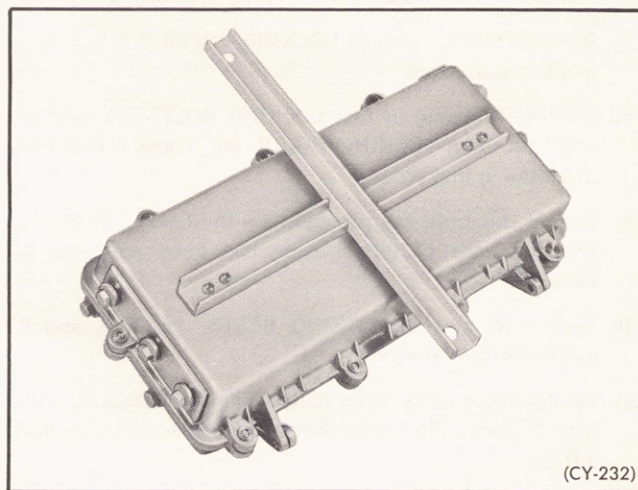

Fig. 4 Model SPB-1 Cruciform Bracket installed on SA-\* Housing
- 5.1 For mounting on a utility pole or its cross-arm, auxiliary bracket Model SPB-1 is required (see Fig. 4).
- 5.4 Use these cap screws for mounting the bracket at the threaded holes in the rear wall of the housing; the long arm of the cruciform bracket must extend above the top of the housing (see Fig. 4).